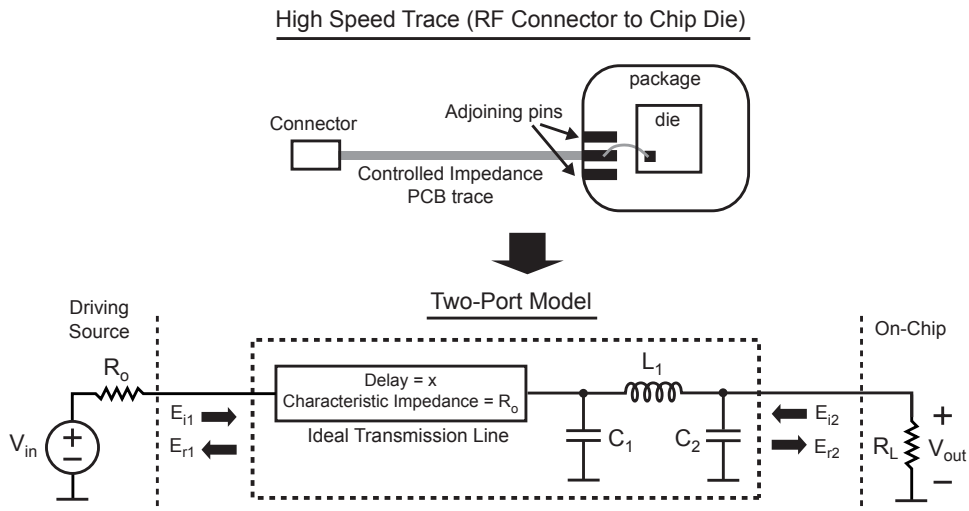

Figure 1: Example high speed trace and associated 2-port model.
1. Consider the high speed trace and its associated two-port model shown in Figure 1. In the model, the transmission line corresponds to the RF connector and PCB trace (both assumed to be ideal), C_1 is the capacitance of the package pin to the package substrate and adjoining pins, L_1 is the bondwire inductance, C_2 is the on-chip pad capacitance, and R_L is the on-chip termination resistor. For all calculations to follow, it is assumed that the source driving impedance is precisely matched to the transmission line characteristic impedance, R_o .